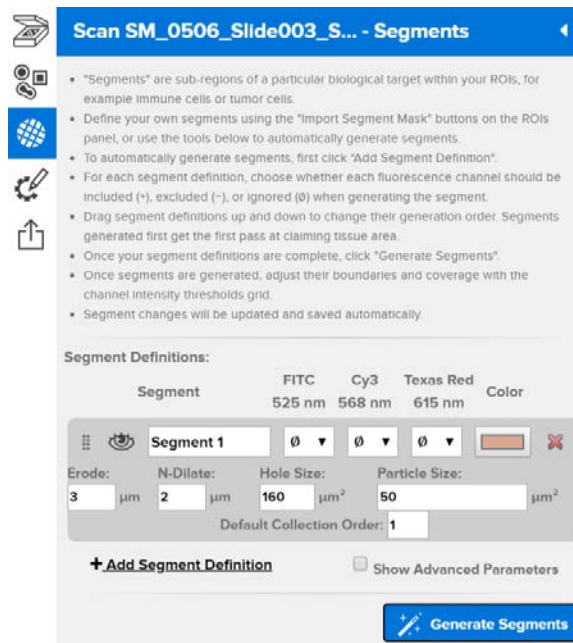

Figure 37: Scan Workspace segmentation workspace
1. Open the **Segments Panel** (see Figure 37), if it is not open already.